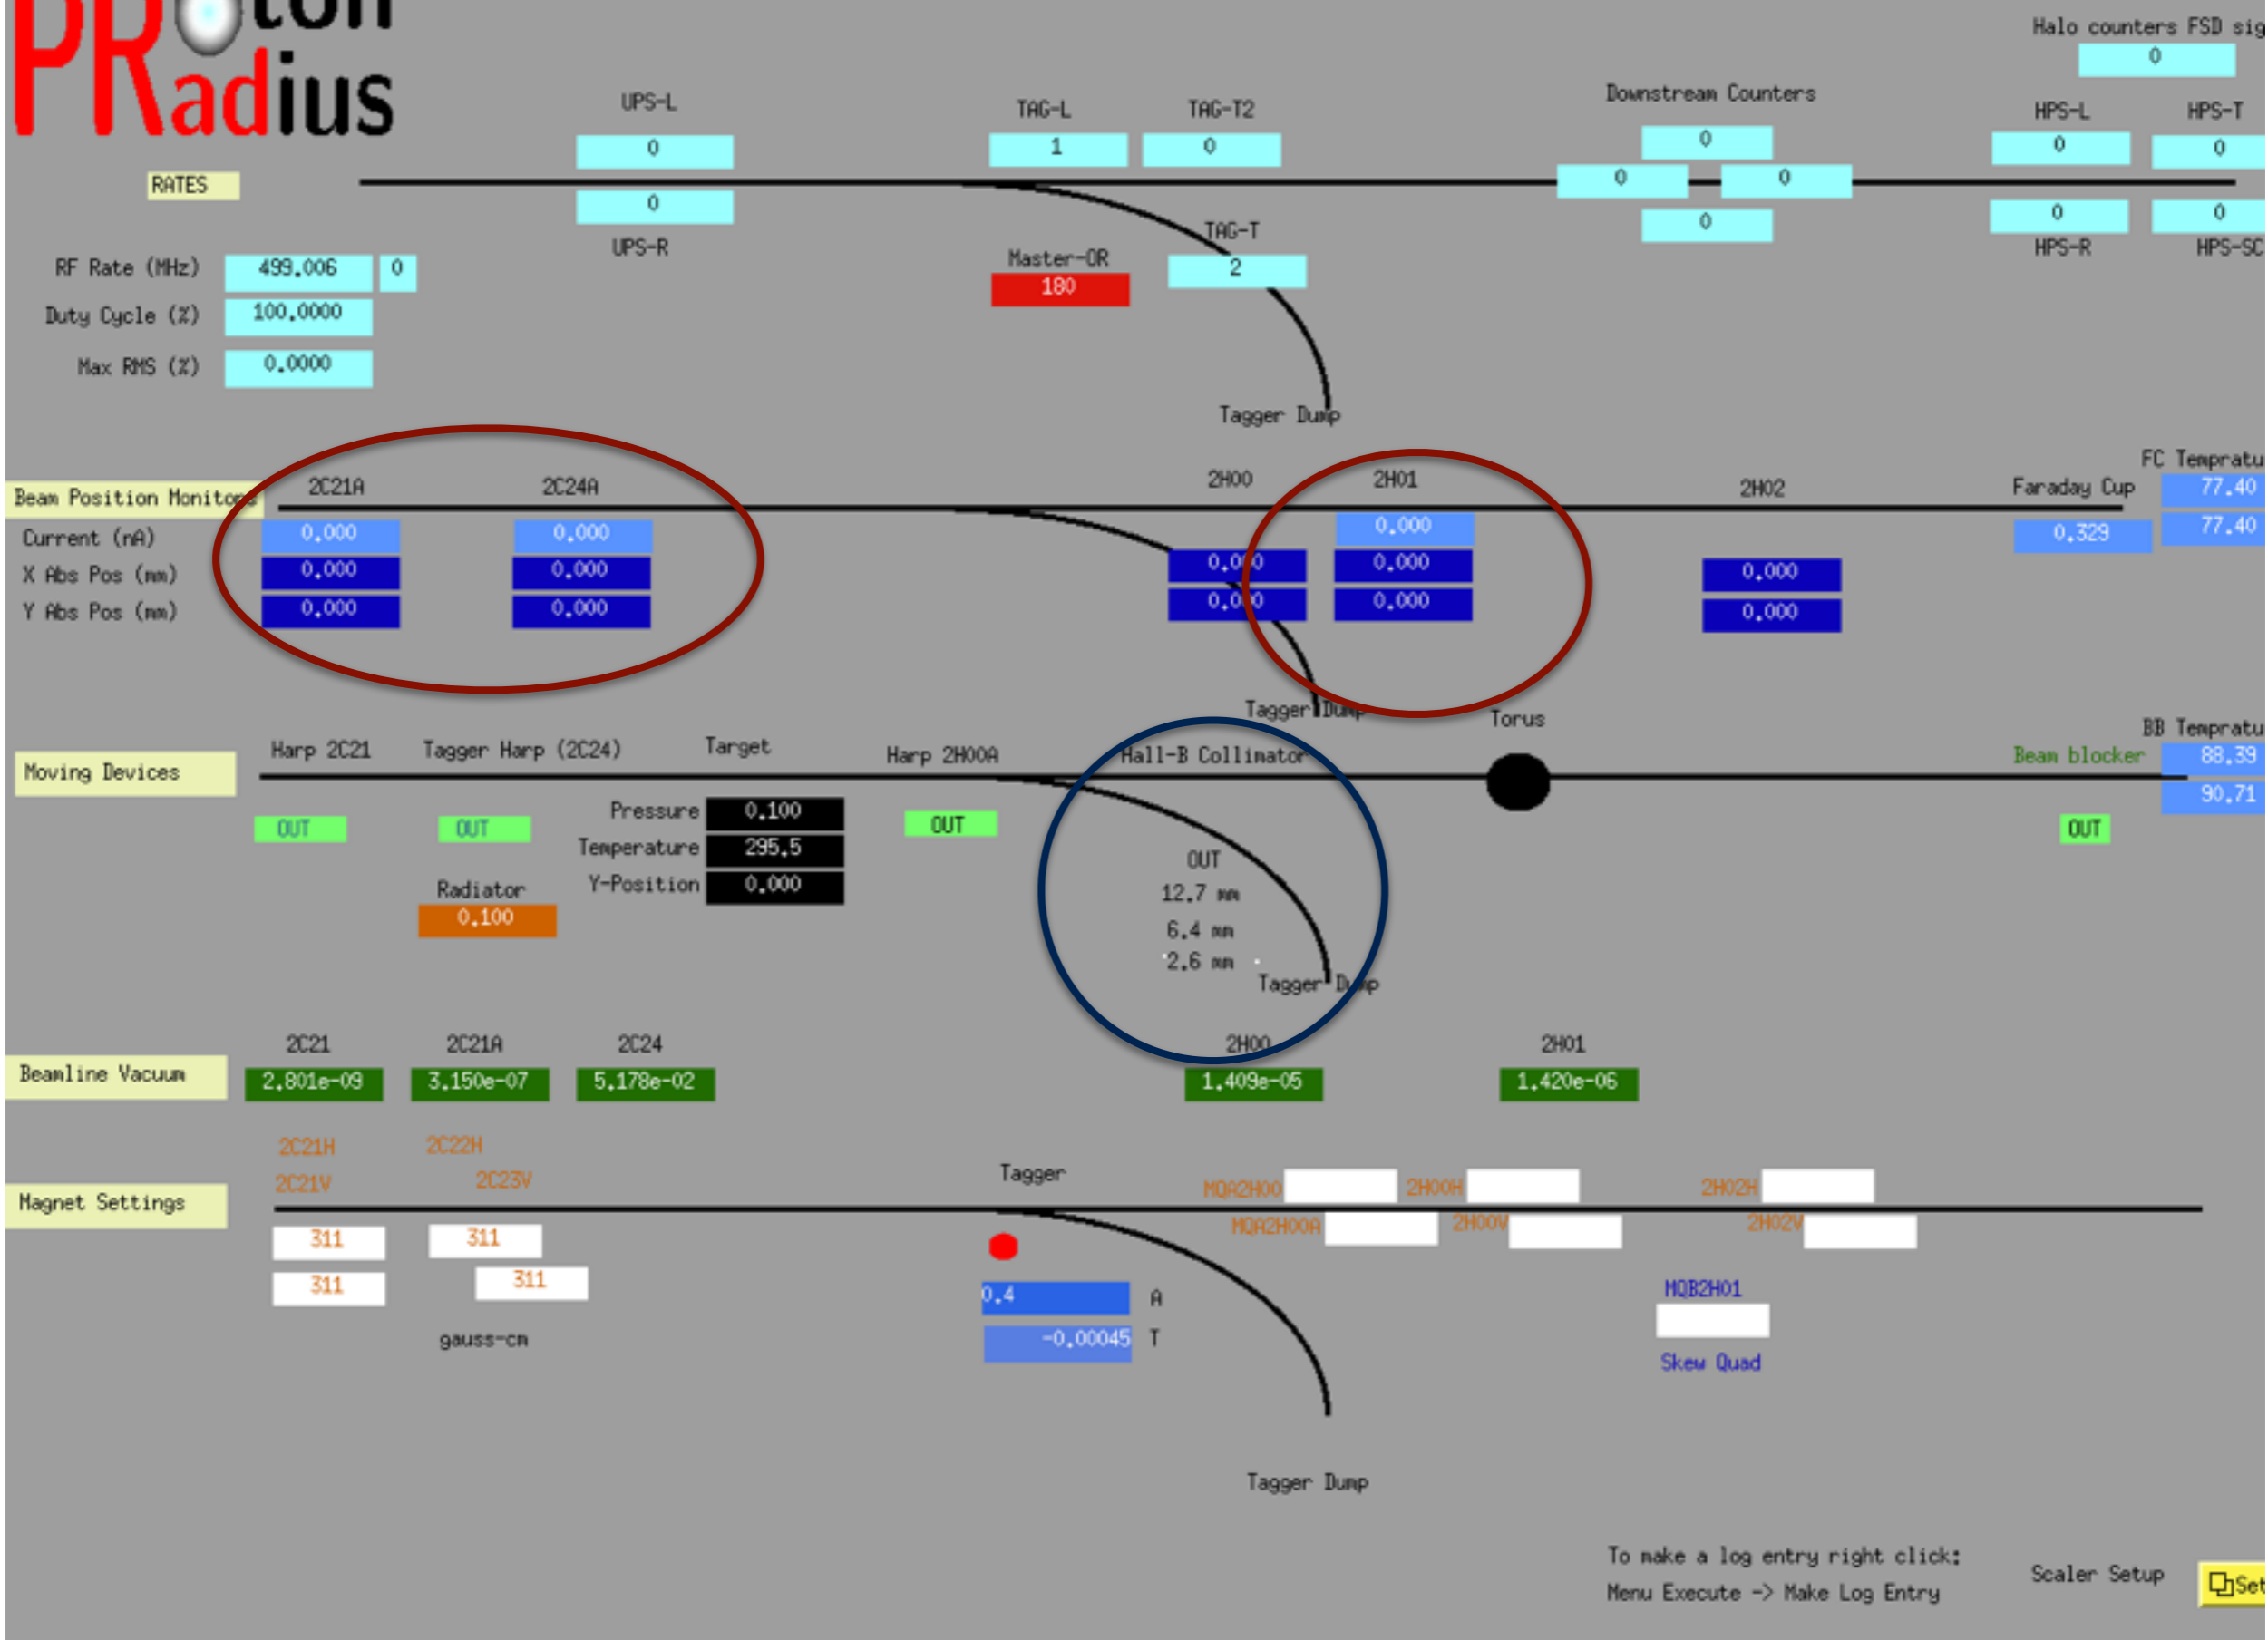

Fig. 3
- Beam current and energy: Get from the PRad scalers GUI (usually on the top monitor of CLONPC16). See Fig. 3, marked by the red ovals.
- Beam positions X/Y on 2C24A, 2C21A and 2H01: Get from the PRad scalers GUI (usually on the top monitor of CLONPC16). See Fig. 3, marked by the red ovals.
- Collimator/Aperture position: Also from the PRad scalers GUI (See Fig. 3, marked by the blue circle).